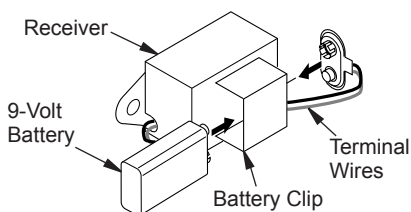

Figure 21 - Attaching Battery to Receiver
2. Locate the battery clip mounted on the back of the receiver (see Figure 21).
4. Attach the terminal wires to the battery (see Figure 21).